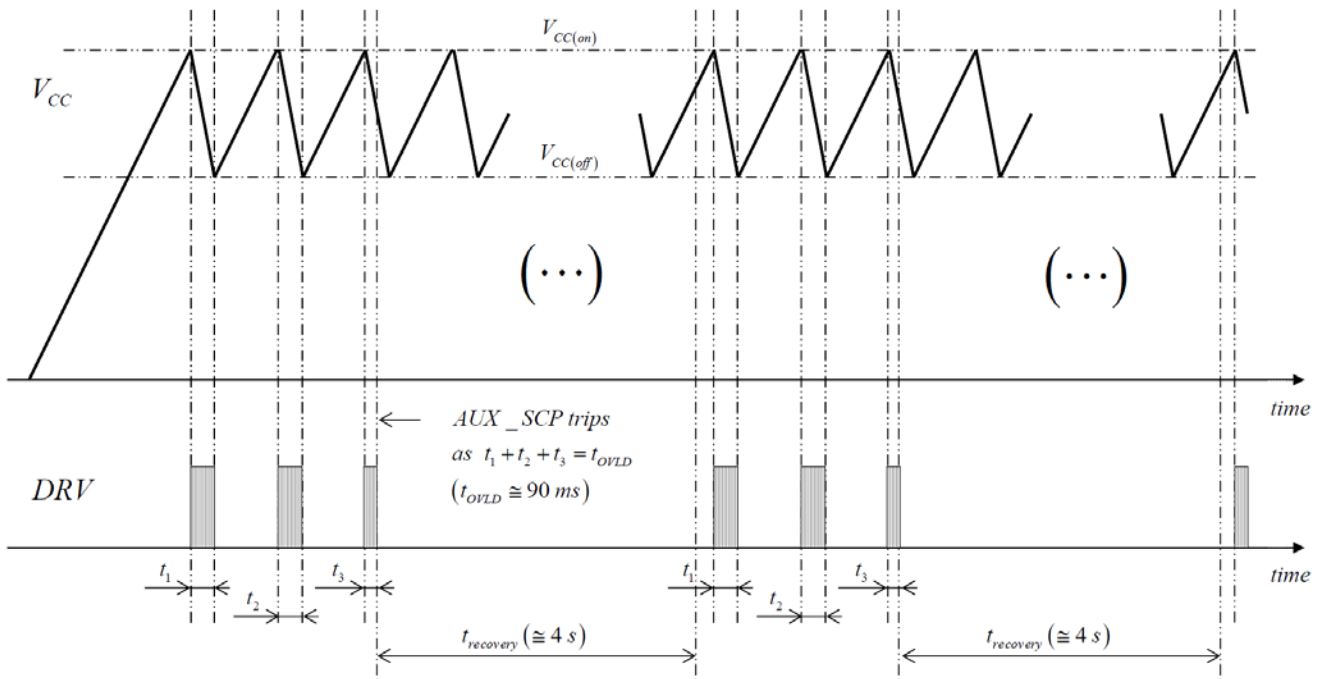

Figure 5. Start-up Sequence in a Load Short-circuit Situation
- If the load is shorted, the circuit will operate in hiccup mode with V_{CC} oscillating between V_{CC(off)} and V_{CC(on)} until the Auxiliary Short Circuit Protection, AUX_SCP, forces the 4 s auto-recovery delay to reduce the operation duty-ratio (AUX_SCP trips if the ZCD pin voltage does not exceed 1 V within a 90 ms active period of time thus indicating a short to ground of the ZCD pin or an excessive load preventing the output voltage from rising). Figure 5 illustrates a start-up sequence with the output shorted to ground.